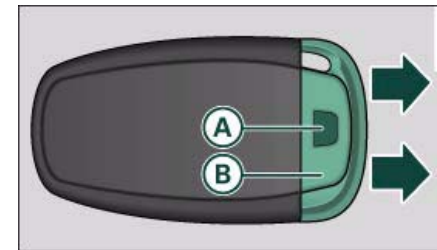

Fig. 29 Remote control key: Removing the emergency key
- Press the release button  ⇒ fig. 29. ▶